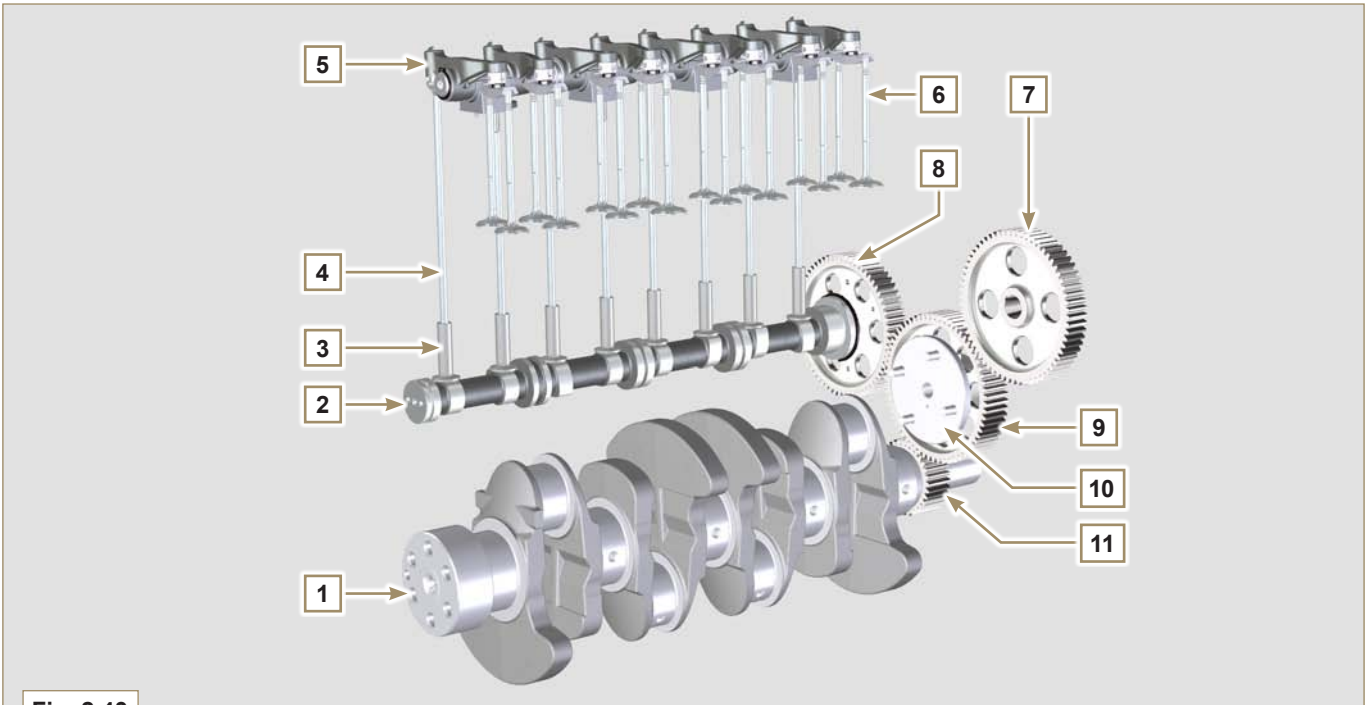

Fig. 2.43
- It should be noted that the said values may be verified by rotating the crankshaft (**Pos. 1 of Fig. 2.43**), by means of handling the rocker arm control rod (**Pos. 4 of Fig. 2.43**).